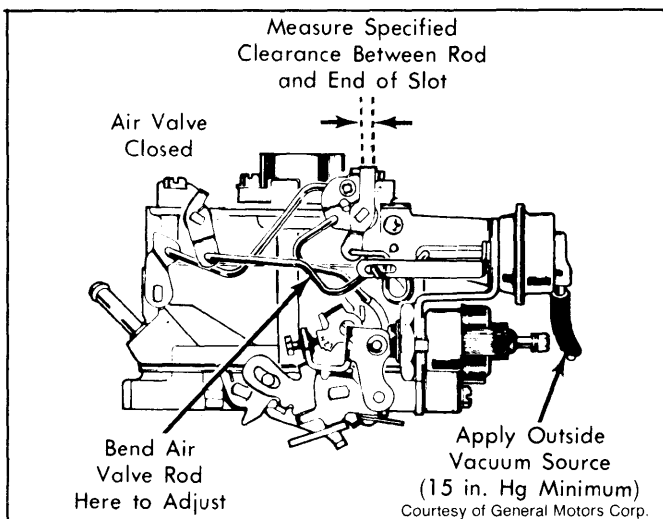

Fig. 8: Adjusting 4-Cylinder Engine Air Valve Rod
- 1) Using an outside vacuum source of at least 18 in. Hg, seat primary choke vacuum break diaphragm plunger. Close air valve completely. See Fig. 8 or 9.